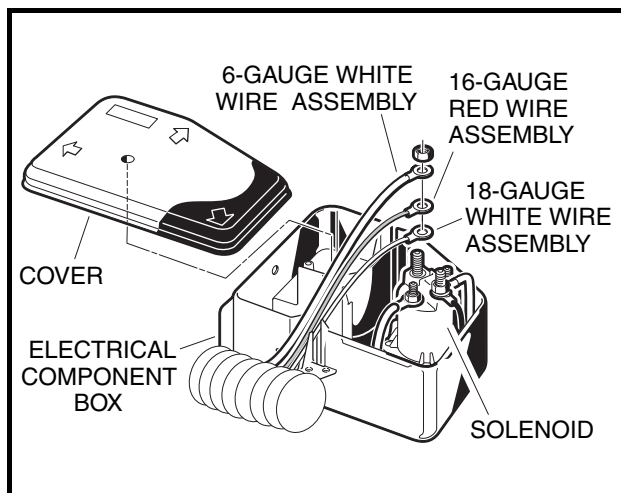

Figure 11-13 Remove Solenoid Wires
6. Remove the 6 and 18-gauge white wires, and the 16-gauge red wire, from the large post of the solenoid. Do not allow the wires to touch the frame or other components of the vehicle (**Figure 11-13, Page 11-16**).